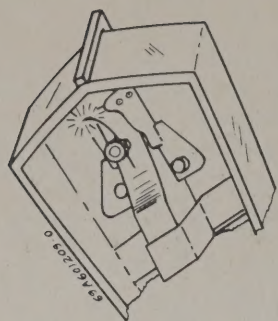

FIGURE 10.
1. Motorola needle, Part No. 59K691908, is used in the Shure cartridge. It is held in the cartridge with a small, round, knurled nut (see Figure 10). To replace the needle, loosen the nut and remove the needle.